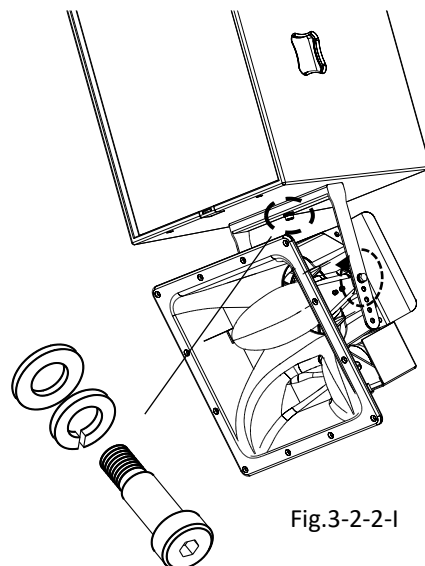

Fig.3-2-2-I
- (3) For secondary safety, ensure a commercially available eyebolt to the mounting point on the bottom of the XY-3B rear, securely fix the eyebolt on the XY-3B and the hole on the back of XY-2 using secondary safety wire. (Fig.3-2-2-J)